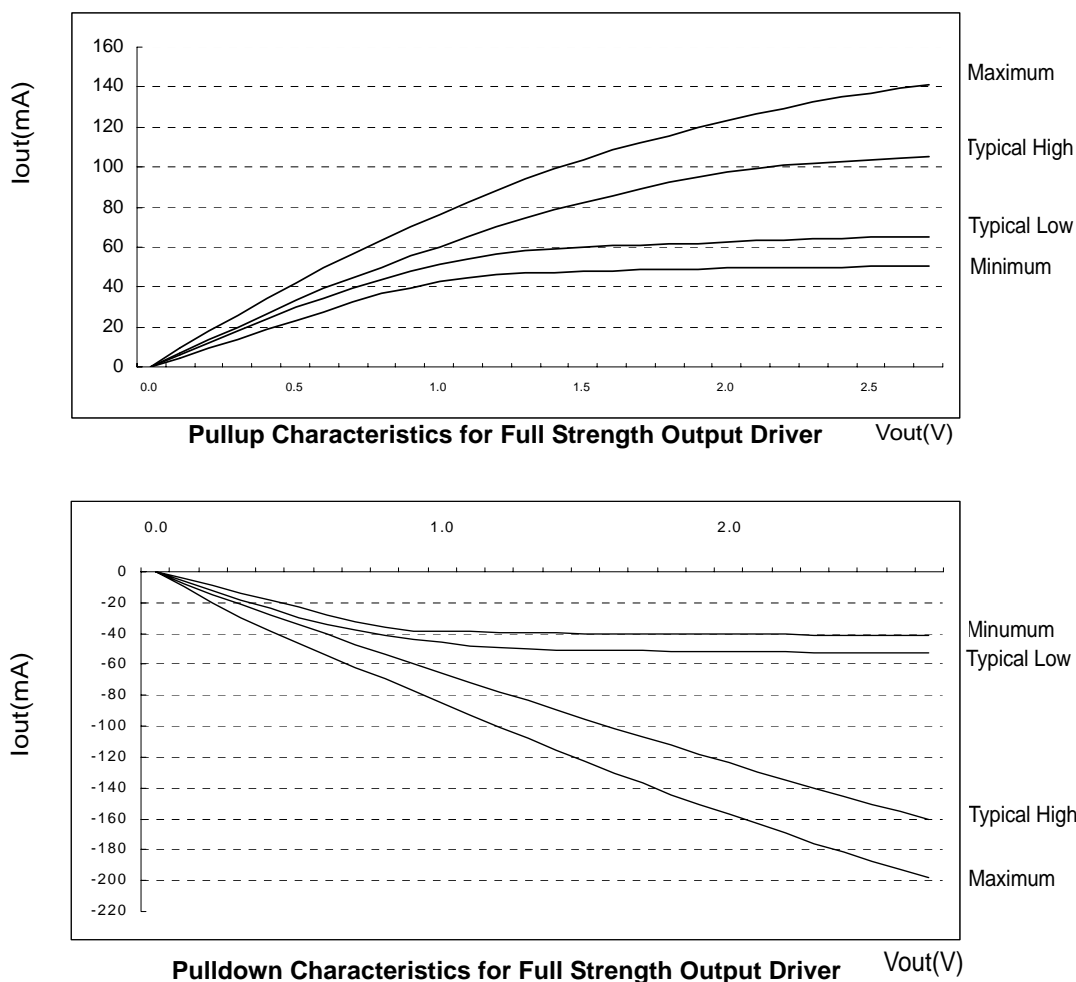

Figure 3. I/V characteristics for input/output buffers: Pull up(above) and pull down(below)
Figures 3 and 4 show the driver characteristics graphically, and tables 8 and 9 show the same data in tabular format suitable for input into simulation tools. The driver characteristics evaluation conditions are:
1. The full variation in driver current from minimum to maximum process, temperature and voltage will lie within the outer bounding lines of the V-I curve of Figure 3 and 4.
2. It is recommended that the "typical" IBIS V-I curve lie within the inner bounding lines of the V-I curves of Figure 3 and 4.